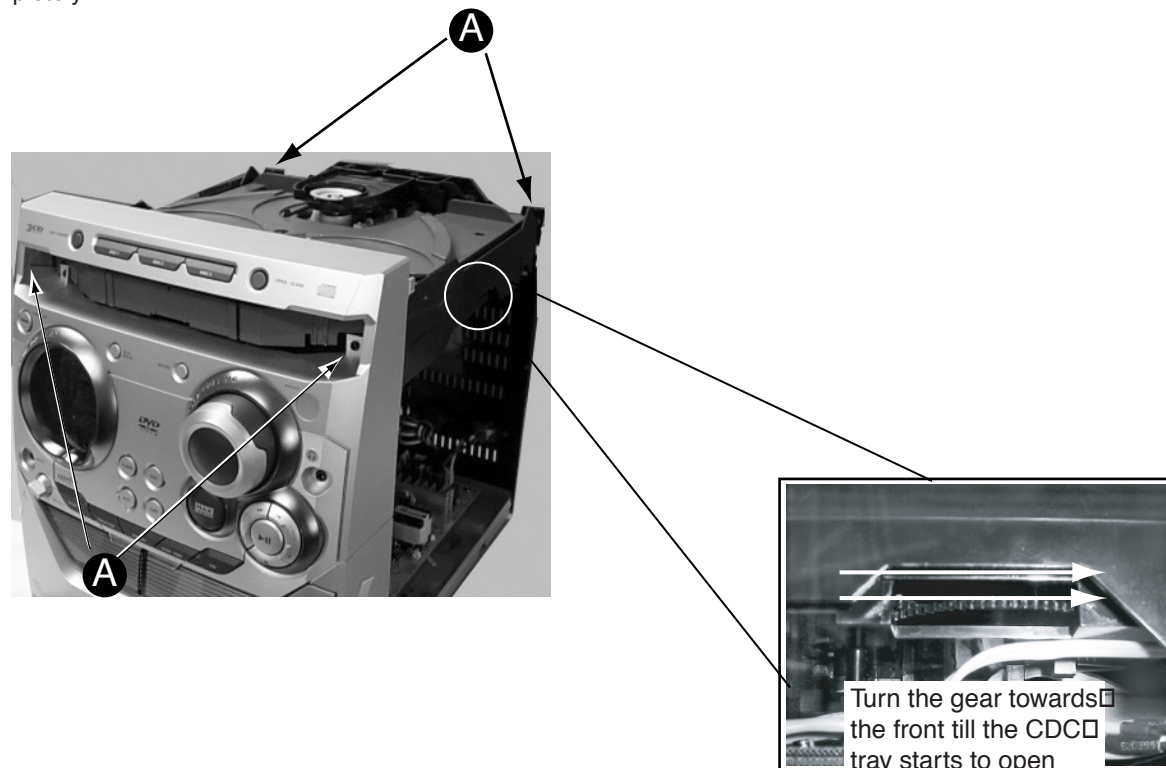

Figure 2
- 2) Push the gear slowly towards the front as shown in figure 2 until the CDC tray starts to move out of the Front Cabinet. The CDC tray is now disengaged and can be pulled out completely.
- 4) Loosen 4 screws A to remove the CDC Module as shown in figure 2.